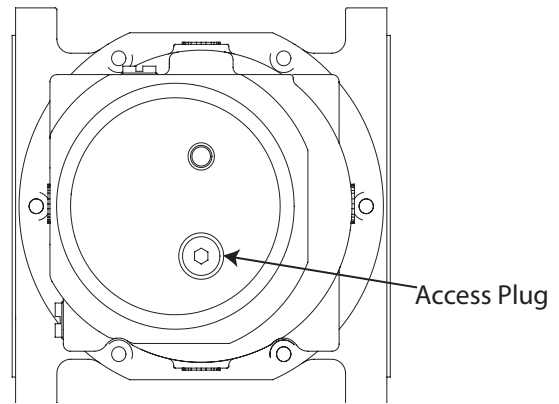

Figure 13 - Remove the access plug to check impeller rotation.
5. After the meter has been installed, remove the hex head plug located in the timing gear end cover (as shown in Figure 13) by using a Hex wrench. Insert a Hex wrench into the gear clamp and slowly turn the impellers clockwise, checking for free rotation. If binding is present, do not attempt to disengage the impellers. Remove the meter from the set and clear all obstructions or piping strain prior to reinstalling the meter. Reinstall the plug and torque to 6-7 ft-lbs after verifying free impeller rotation.